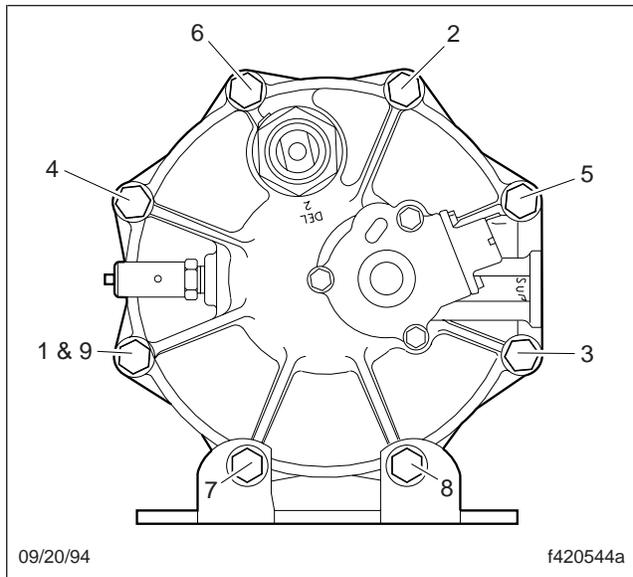

Fig. 2, End Cover to Housing Torque Pattern
16. Install the 6 bolts, 12 washers, and 6 new nuts. Torque the bolts in a star pattern 270 to 385 lbf-in (3060 to 4340 N-cm). See Fig. 2.